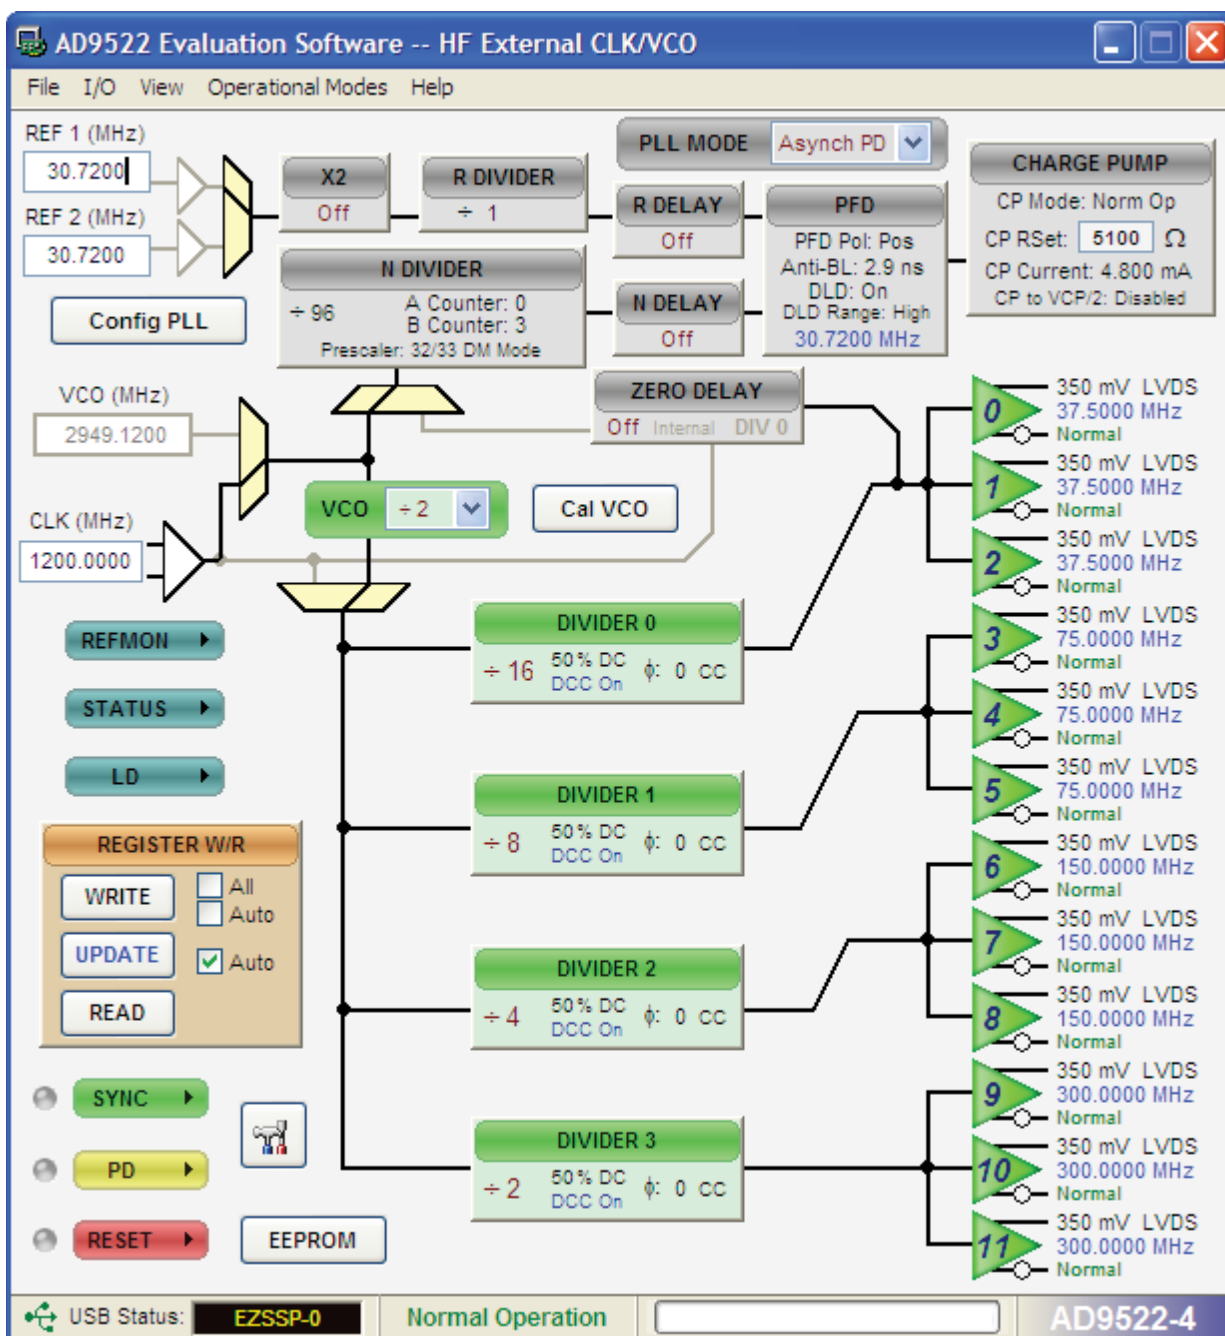

Figure 8. AD9522 Evaluation Software Main Window
1. Turn the PLL on by selecting **Normal Op** from the **PLL MODE** box found at the top of the main window (see Figure 8).
4. When the window closes, the **WRITE** button under the **Register W/R** control section in Figure 8 blinks red. This indicates that there are settings that have not been loaded to the AD9522 evaluation board. Click the blinking red **WRITE** button to load these settings to the evaluation board.